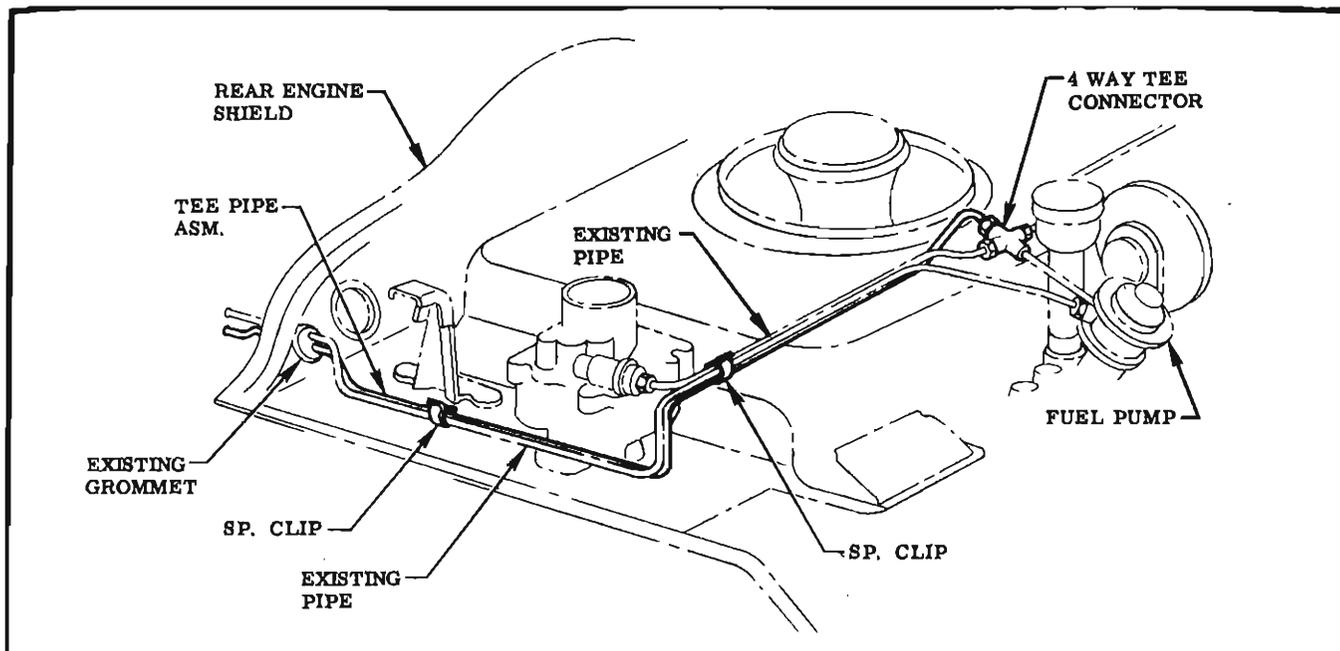

FIG. 8 TEE GASOLINE PIPE ROUTING
STEP 43 REMOVE & DISCARD 3 WAY TEE CONNECTOR & REPLACE WITH 4 WAY TEE CONNECTOR PROVIDED (IN BAG C). SEE FIG. 8.
BAG C). SEE FIG. 8.
- STEP 7** ATTACH CONNECTOR TO JUNCTION BLOCK. ATTACHMENT IS TYPICAL OF FIG. 8 OR 9 EXCEPT FOR POSITION OF JUNCTION BLOCK. REFER TO STEP 10 a FOR DESCRIPTION.